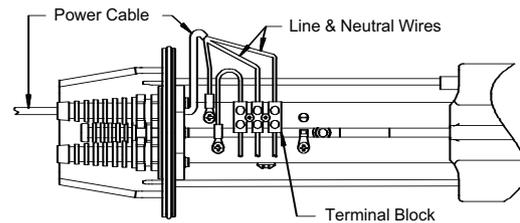

FIGURE 10 Attaching Line and Neutral Wires
4. Connect both the line and neutral wires of the power cord to the terminal block. Make sure the line and neutral wires are connected to the correct positions on the terminal block that are across from the appropriate colored wire. See FIGURE 10.